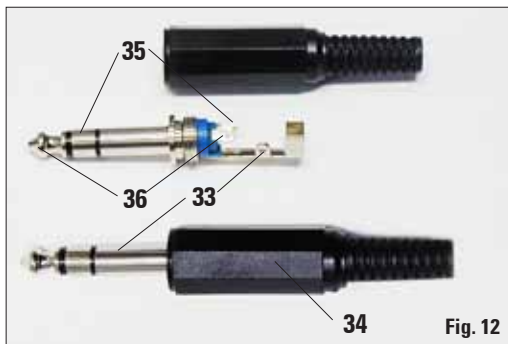

Fig. 12
Each alarm is connected to the plug (34) as follows (see Fig. 12):